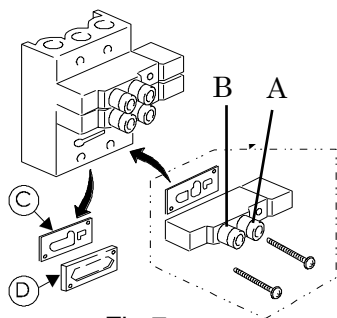

Fig.7
- (1) The 0 to the air pressure by turning the pressure adjustment knob of the filter regulator, and remove any residual pressure.
- (2) Remove the cover of the sewing machine body left side, remove the packing and C blanking plate D from the solenoid valve as shown in Figure 7, install the solenoid valve attached. At this time, attach the packing included with this in order to prevent air leakage.